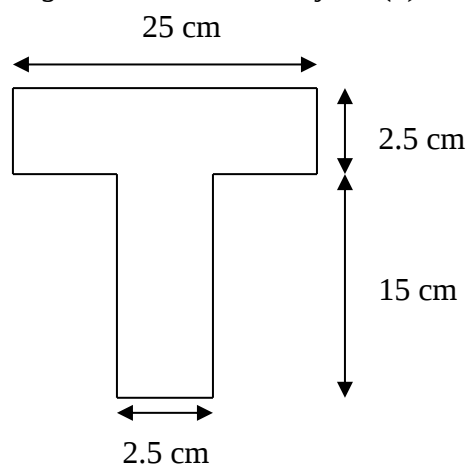

Figure 1(b) / Rajah 1(b)
- (b) Calculate the center position of the area for the shape in Figure 1(b).